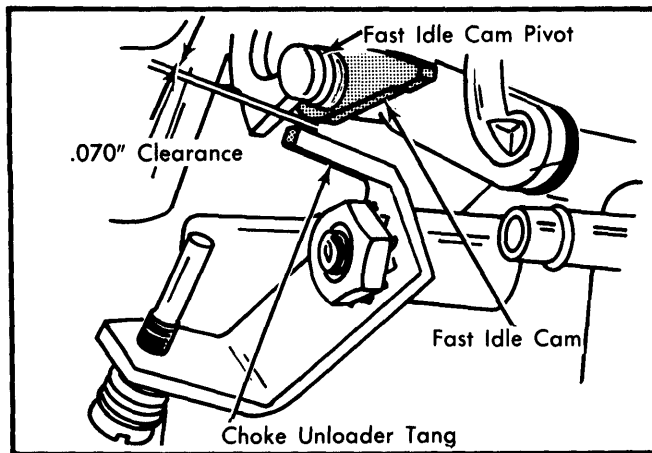

Fig. 8 Unloader Tang-to-Fast Idle Cam Clearance
3) After adjustment is correct, open throttle until unloader tang is directly under fast idle cam pivot. Make sure there is .070" clearance between unloader tang and fast idle cam. See Fig. 8.